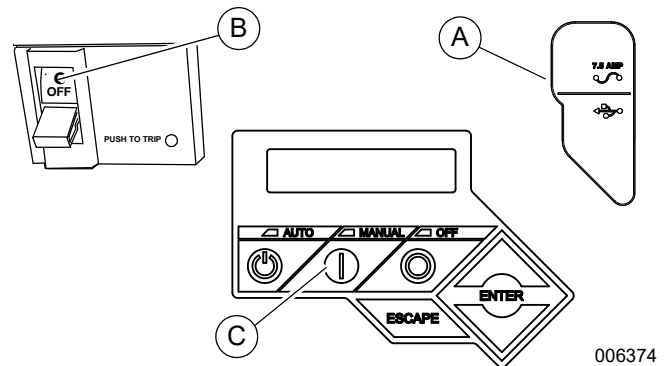

Figure 3-10. Evolution Control Panel
1. See Figure 3-10. Pull up rubber flap covering fuse holder and verify installation of 7.5 amp fuse (A).